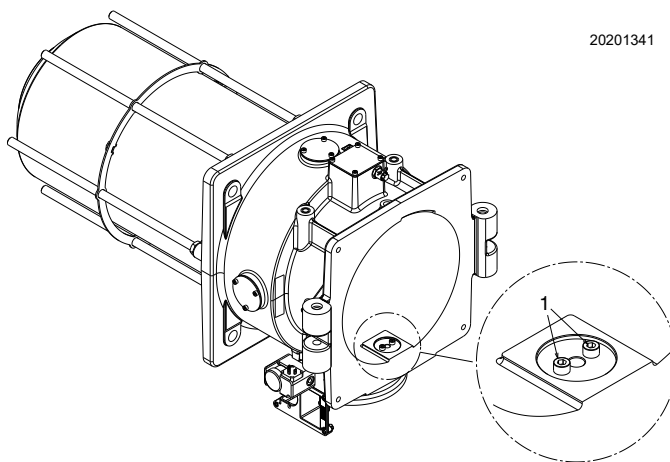

Fig. 22
The factory setting for the central gas is with the following passage holes (Fig. 22).
- remove or add one or more screws 1)(Fig. 22) as follows: